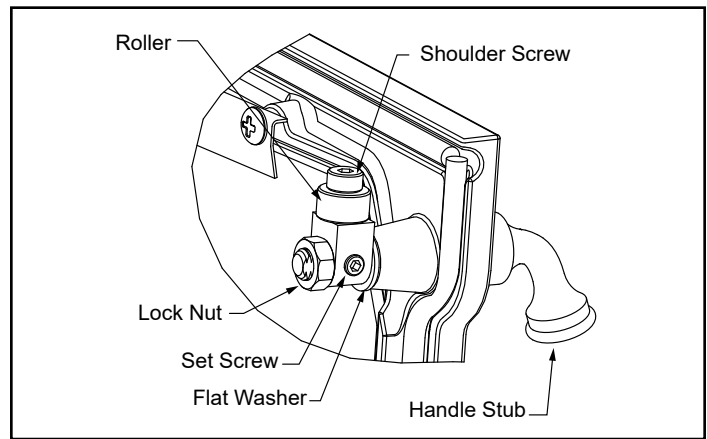

Figure 3.4 - Rotate pawl and/or remove flat washer to adjust latch.
1. Remove and retain the lock nut with a 9/16" wrench, Figure 3.4.
3. Rotate the pawl 180°. Replace the lock nut. Tighten the set screw, Figure 3.4.